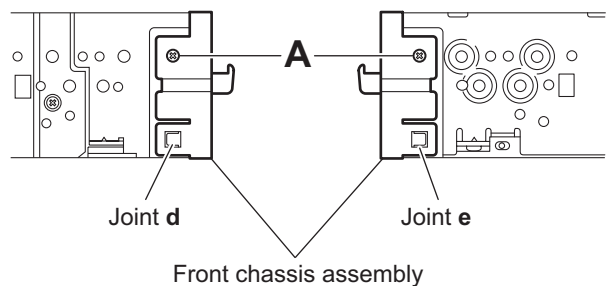

Fig.3
3.1.3 Removing the front chassis assembly (See Fig.3)